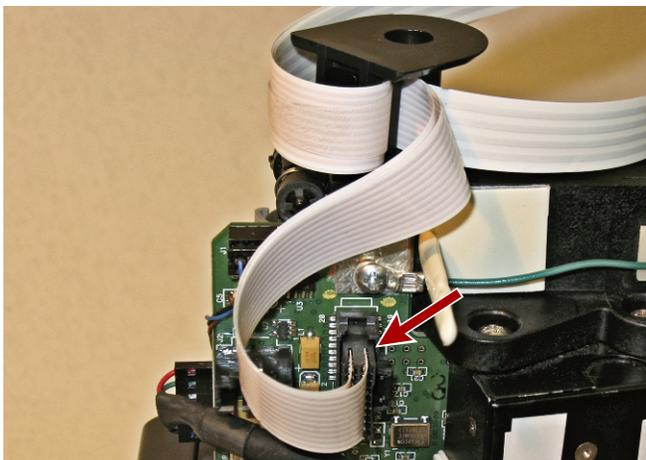

Figure 10. Connect the Signal Controller Cable
2. Loop and connect the **signal controller cable** to J4 (Figure 10).